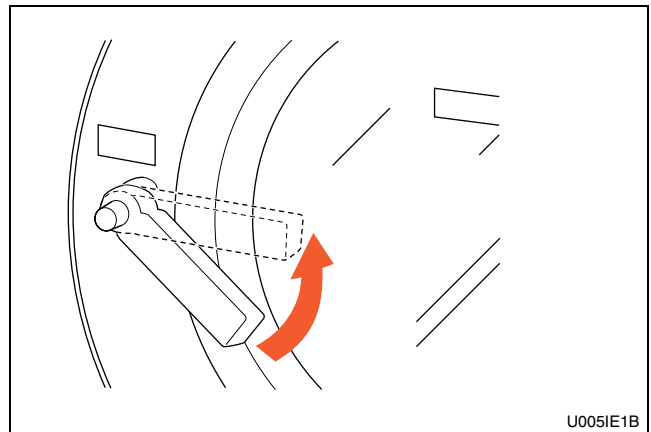

Figure 11
4. Close door and turn handle counterclockwise until button pops out. Refer to *Figure 11*.